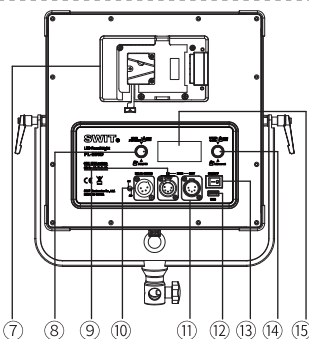

Fig. 3 PL-E60D
The light provides two ways of power supply, by V-mount or Gold mount battery or by 4-pin XLR AC-DC power. Turn on the light (Fig. 3 ⑬) and set the color temperature (Fig.3 ⑧) and brightness (Fig. 3 ⑭) to user's requirements.
The light provides two ways of adjusting the color temperature and brightness: normal adjusting mode and quick adjusting mode. User can switch the adjusting mode by press the dimmer knob and color temperature adjusting knob (Fig.3⑭/⑧). User can quickly set the dimmer and color temperature to their needs by combining two adjusting modes.
Press and hold dimmer knob (Fig.3⑭) for 2s to enter communication address setting interface, the address setting range is 001 to 512.
LCD digital tube (Fig.5 ④) flashing means the current address is selected, rotate the brightness adjusting knob (Fig.3⑭) to set the current address, press the brightness adjusting knob (Fig.3⑭) to confirm, when finish the last setting, press the brightness adjusting knob (Fig.3⑭) or wait for about 5s to quit.
Connect the lights network through using DMX cable. Press and hold color temperature adjusting knob (Fig.3 ⑧) for around 2 seconds to complete the communication control setting.